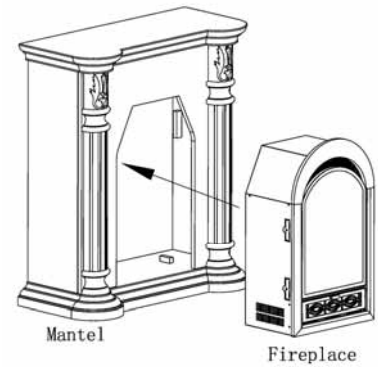

Figure 4
- Insert fireplace into mantel. (Figure 4)